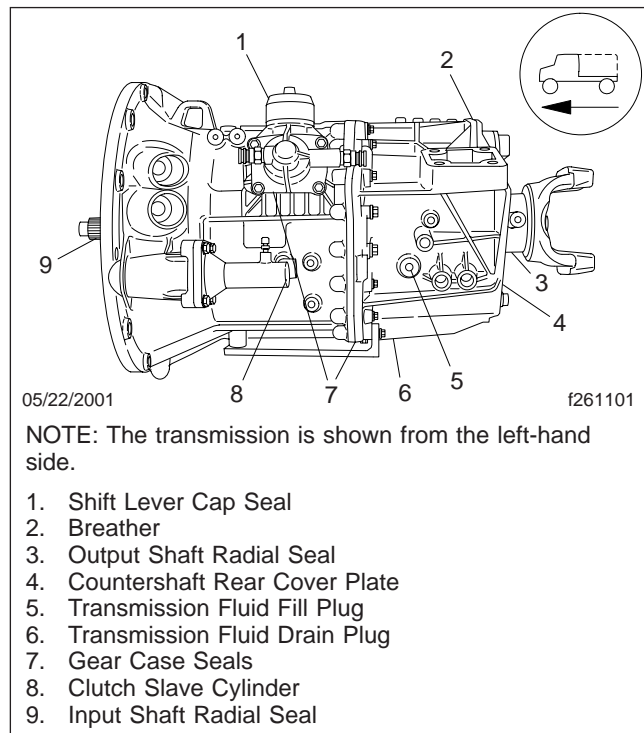

Fig. 18, MBT Transmission Leak Check
2. Check for signs of leakage at the breather. See Fig. 18.